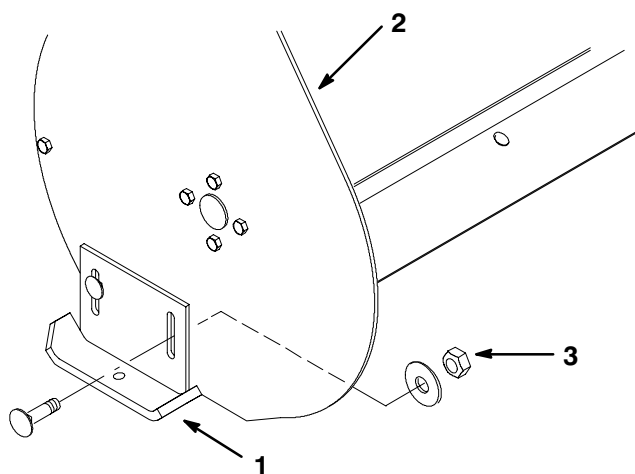

Figure 39
3. Loosen the nuts securing the skids to the housing until the skids slide up and down easily (Fig. 39).
4. Raise or lower the skids equally on both sides to obtain level scraping action, and tighten nuts securely (Fig. 39).